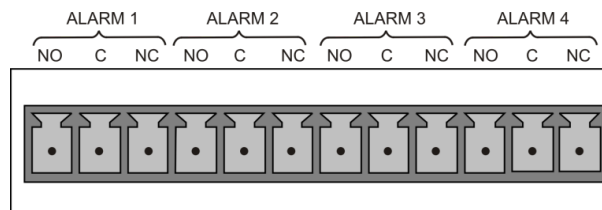

Figure 2-13. Analyzer Concentration Alarm Relay
The concentration relay option provides four (4) “dry contact” relays on the rear panel (Figure 2-13), each with 3 pins: Common (C), Normally Open (NO), and Normally Closed (NC). The Relays can be mapped to reflect various internal instrument conditions and states. Configure these outputs through the Setup>Digital Outputs menu (Section 2.5.7) under MB Relay [1 thru 4].